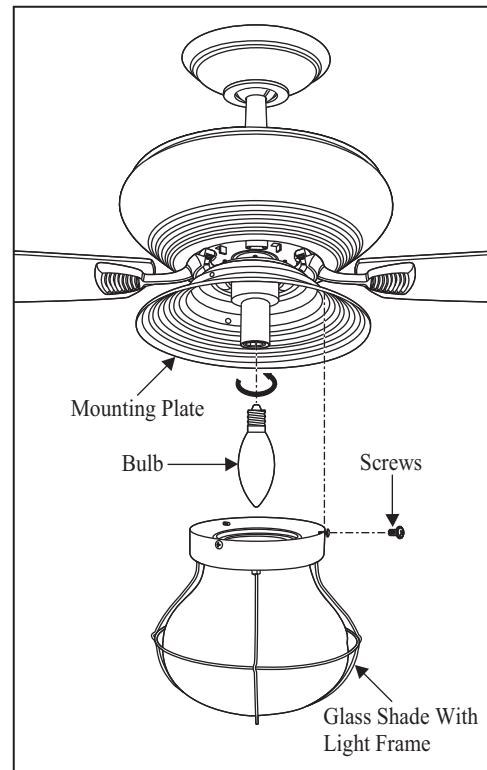

Figure 21
1. Install 1 x 60 Watt candelabra bulb (included). (Fig. 21)
2. Raise glass shade with light frame up against bottom of fan housing and secure with three screws provided. (Fig. 21)